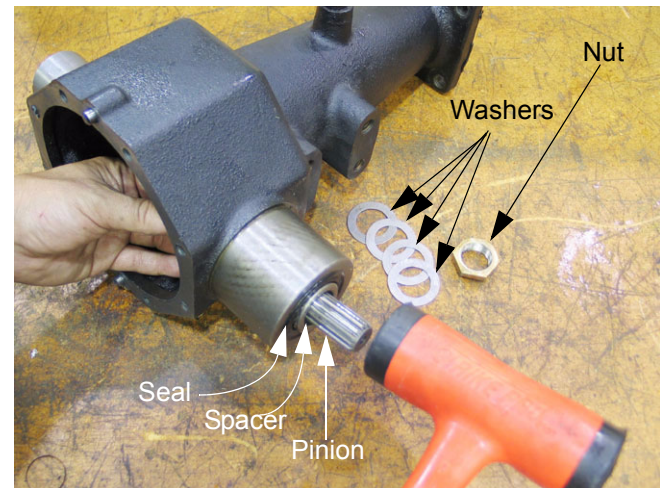

Figure 9.18
9.18. Remove the nut and washers from the pinion shaft. keep track of the size, quantity, and position of the washers. See Figure 9.18.